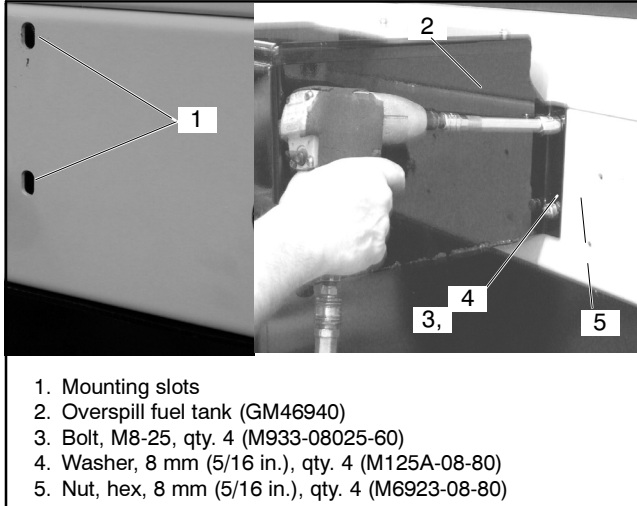

Figure 14 Secure Fuel Tank to Enclosure
- Place 8 mm (5/16 in.) washers M125A-08-80 with M8-25 bolts M933-08025-60 thru mounting slot on overspill tank GM46940. Tighten all fasteners securely. See Figure 14.